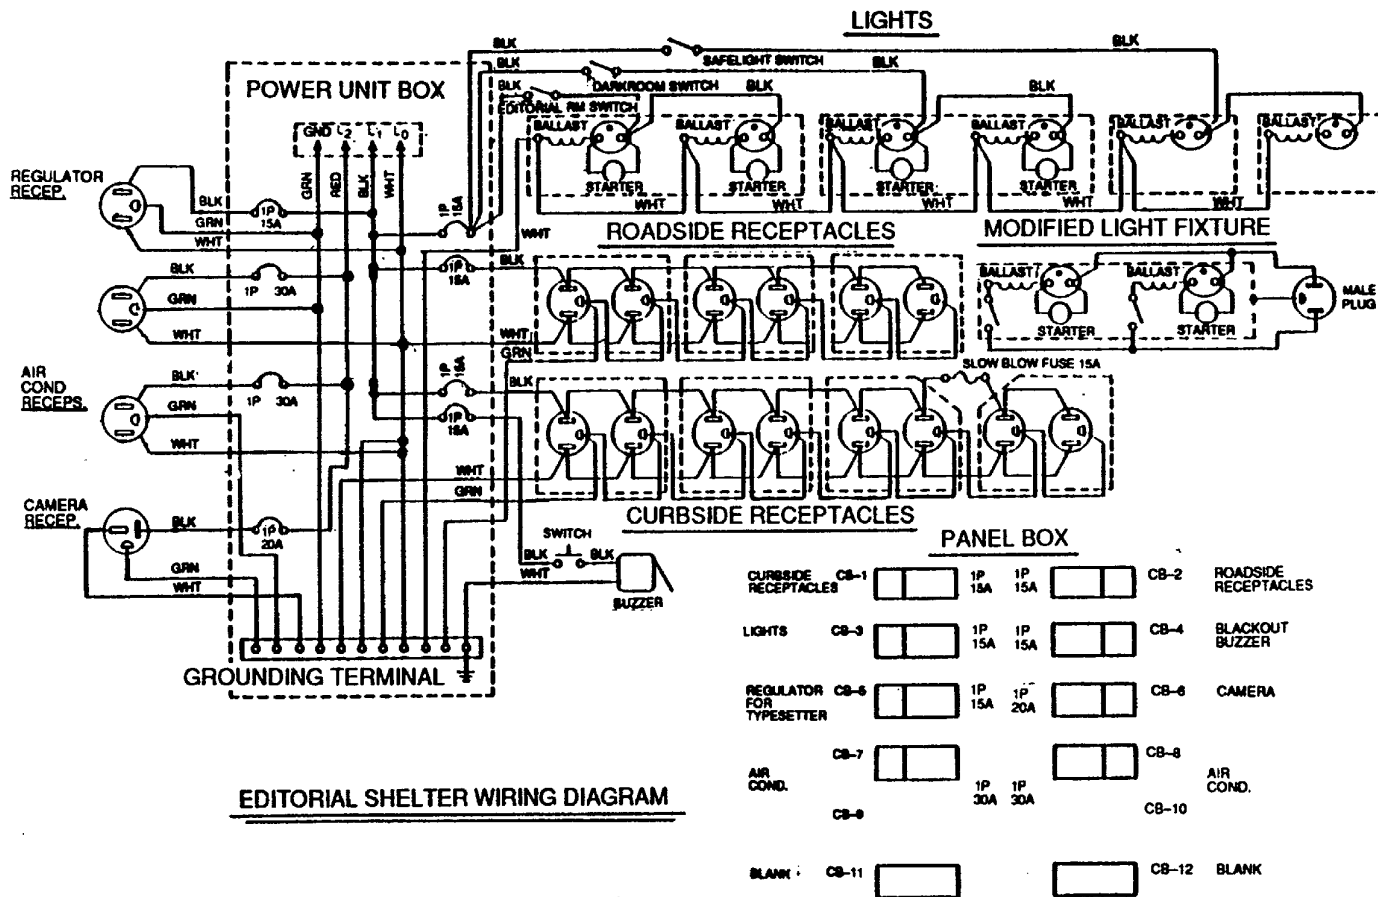

Figure 5-11. Electrical Wiring Diagram
- (1) Inspect electrical wires inside rigid conduit for burnt, cracked or missing insulation.
- (2) Inspect electrical wires for frayed, broken, corroded or exposed conductors.
- (3) Inspect electrical wires for loose or improper connection.
- (4) Inspect electrical wires for security of mounting (safely held inside conduit with wire clips).
b. Repair. Electrical wiring repair consists of replacing components. (See Figure 5-11).
- (1) Remove conduit cover clips, cover and wire clips. Refer to paragraph 5-13.
- (2) Tag electrical wires, disconnect from terminals and remove from conduit, as necessary.
- (3) Install electrical wires (cut to length) in conduit, connect to terminals and remove tags. (See Figure 5-11. Electrical Wiring Diagram for Proper Connections.)
- (4) Install conduit wire clips, channel cover and cover clips. Refer to paragraph 5-13.